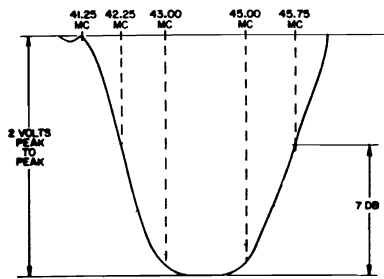

Figure 15 - Typical IF response, Mixer Amp grid to 2nd Det.
| 6. | Connect sweep generator to TP (M) at 44.25 MC. Couple CW generator with marker at 44.25 MC to sweep generator cable. Keep marker amplitude low to avoid distorting response. Adjust scope for 2V-PP. | Mixer output coil and T200: Rocking symmetrical response. Tune for maximum amplitude with waveshape and markers as shown in Figure 15. |
| 7. | CW generator to TP (M) at 47.25 MC. | L203: Minimum amplitude (wave shape should be as shown in Figure 15) |